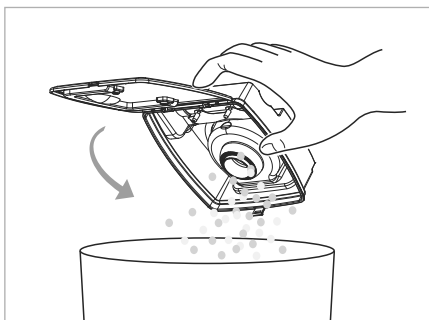

Fig. 11
- 4) Empty the contents of the dust container ⑭ into a waste container (see Fig. 11).